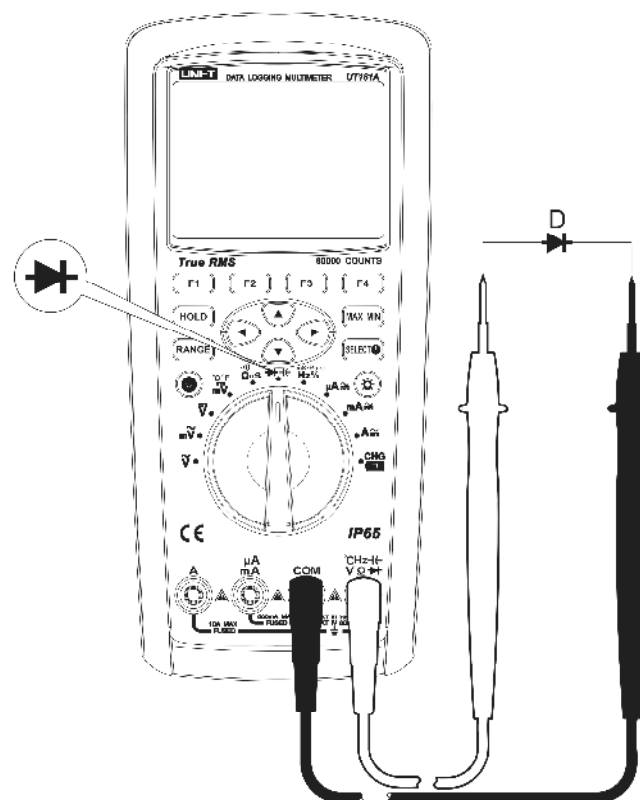

Figure 10
- 2) Set the rotary switch to the measurement $\rightarrow$ mode and the diode measuring mode $\rightarrow$ is default. Connect the test leads to both ends of the measured diode as shown in Figure 10. Directly read the approximate forward PN junction voltage of the measured diode on the display.